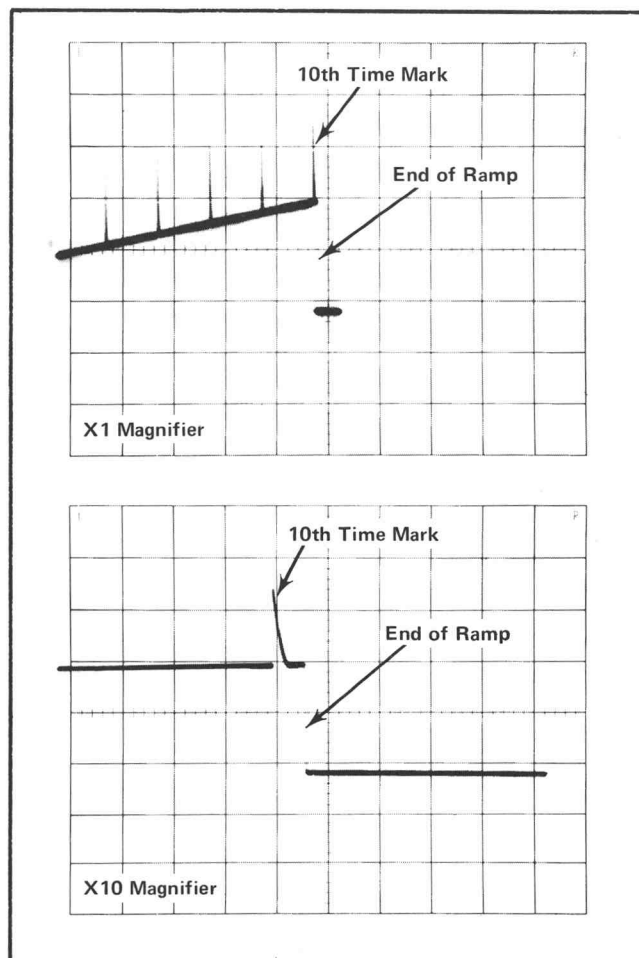

Fig. 5-6. Typical display of ramp and time marks for ADJUST steps 4 and 6.
- Adjust Time Base Trigger/Level and Position controls to give a stable display similar to that in Fig. 5-6.
6. Adjust 1 ms, X10 Ramp Duration (R125) ①
- Display ramp and time marks as shown in Fig. 5-6.